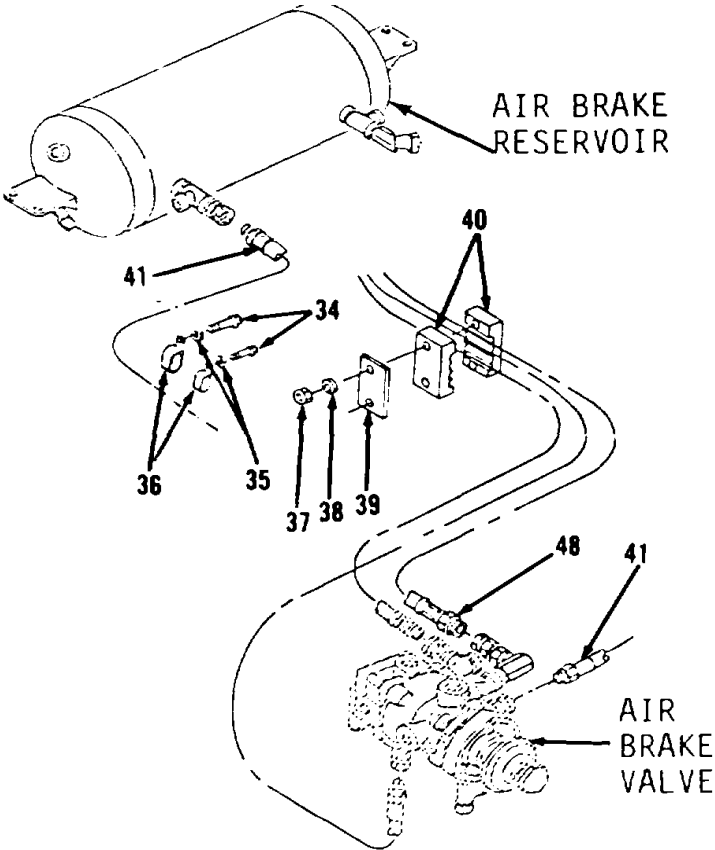
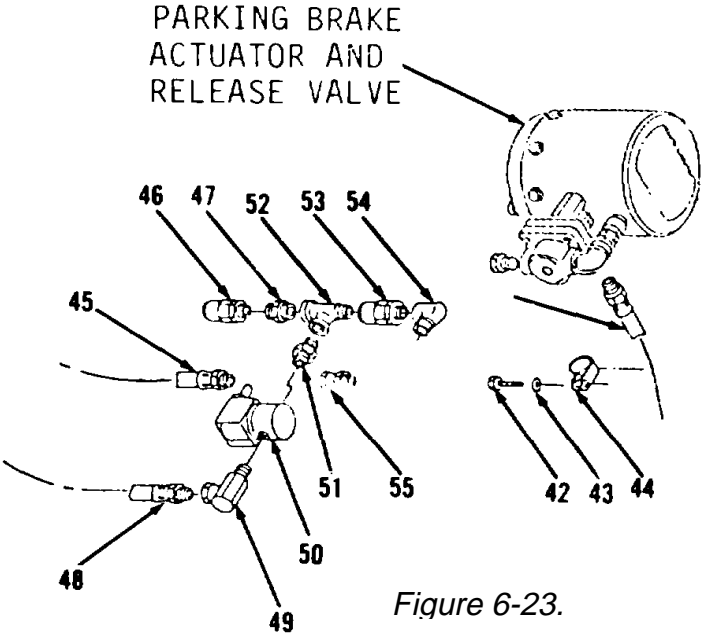

Figure 6-22.
Figure 6-23.
- 17. Disconnect hose assembly (41, Figure 6-22) from air brake reservoir.
- 18. Remove bolt (34), washer (35) and clip (36).
- 19. Remove nut (37), washer (38) and plate (39).
- 20. Remove clamp (40).
- 21. Remove hose assembly (41) from air brake valve.
- 22. Disconnect hose assembly (48) from air brake valve.
- 23. Remove bolt (42), washer (43) and clip (44, Figure 6-23).
- 24. Disconnect hose assembly (45) from parking brake actuator and release valve.
- 25. Remove hose assembly (45).
- 26. Remove check valve (46) and nipple (47).
- 27. Remove hose assembly (48).
- 28. Remove elbow (49) and solenoid valve (50).
- 29. Remove nipple (51).
- 30. Remove tee (52), check valve (53), elbow (54) and connector (55).
1. Install connector (55), elbow (54), check valve (53) and tee (52, Figure 6-23).
2. Install nipple (51).
3. Install solenoid valve (50) and elbow (49).
4. Install hose assembly (48).
5. Install nipple (47) and check valve (46).
6. Install hose assembly (45).
7. Connect hose assembly (45) to parking brake actuator and release valve.
8. Install clip (44), washer (43) and bolt (42).